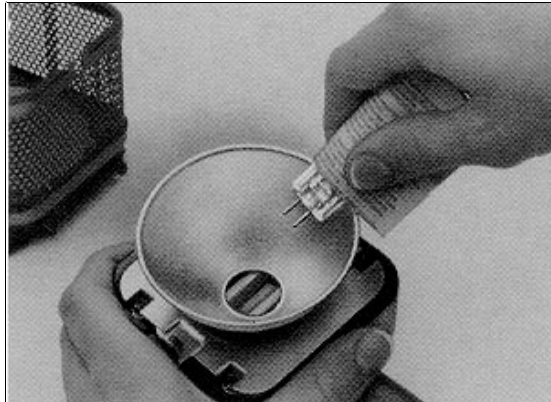

Figure 2-57. Inserting Lamp
- d. Align the pins on the lamp with the openings in the socket (figure 2-57) and push the lamp firmly into position.